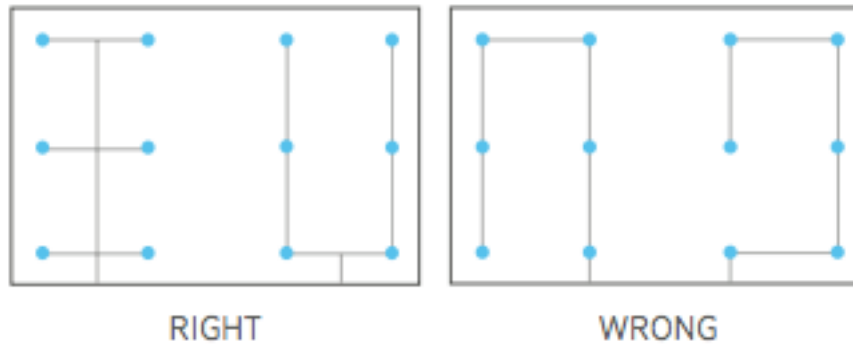

Figure 1– Correct pipe layout
When you decide on the layout of the pipe to connect to the heads, you want to choose the path that means the minimum distance from the manifold to each head. The layout on the right in Figure 1 will mean the head at the very end of the pipe will have lower flow than the very first one. ***You don't want this.***
***Therefore, choose one of the layouts on the left of Figure 1***